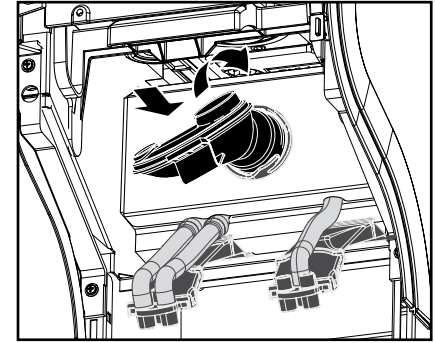

Fig. 30
- g. Insert the mixing bowl and sealing ring, then rotate it clockwise until it engages (fig. 30).